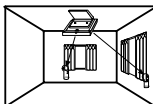

Fig. 4
- **Ceiling Mounted** (for optimal results Wireless VITRON is centered and directed towards protected glass, using the supplied swivel adaptor, see fig. 4)